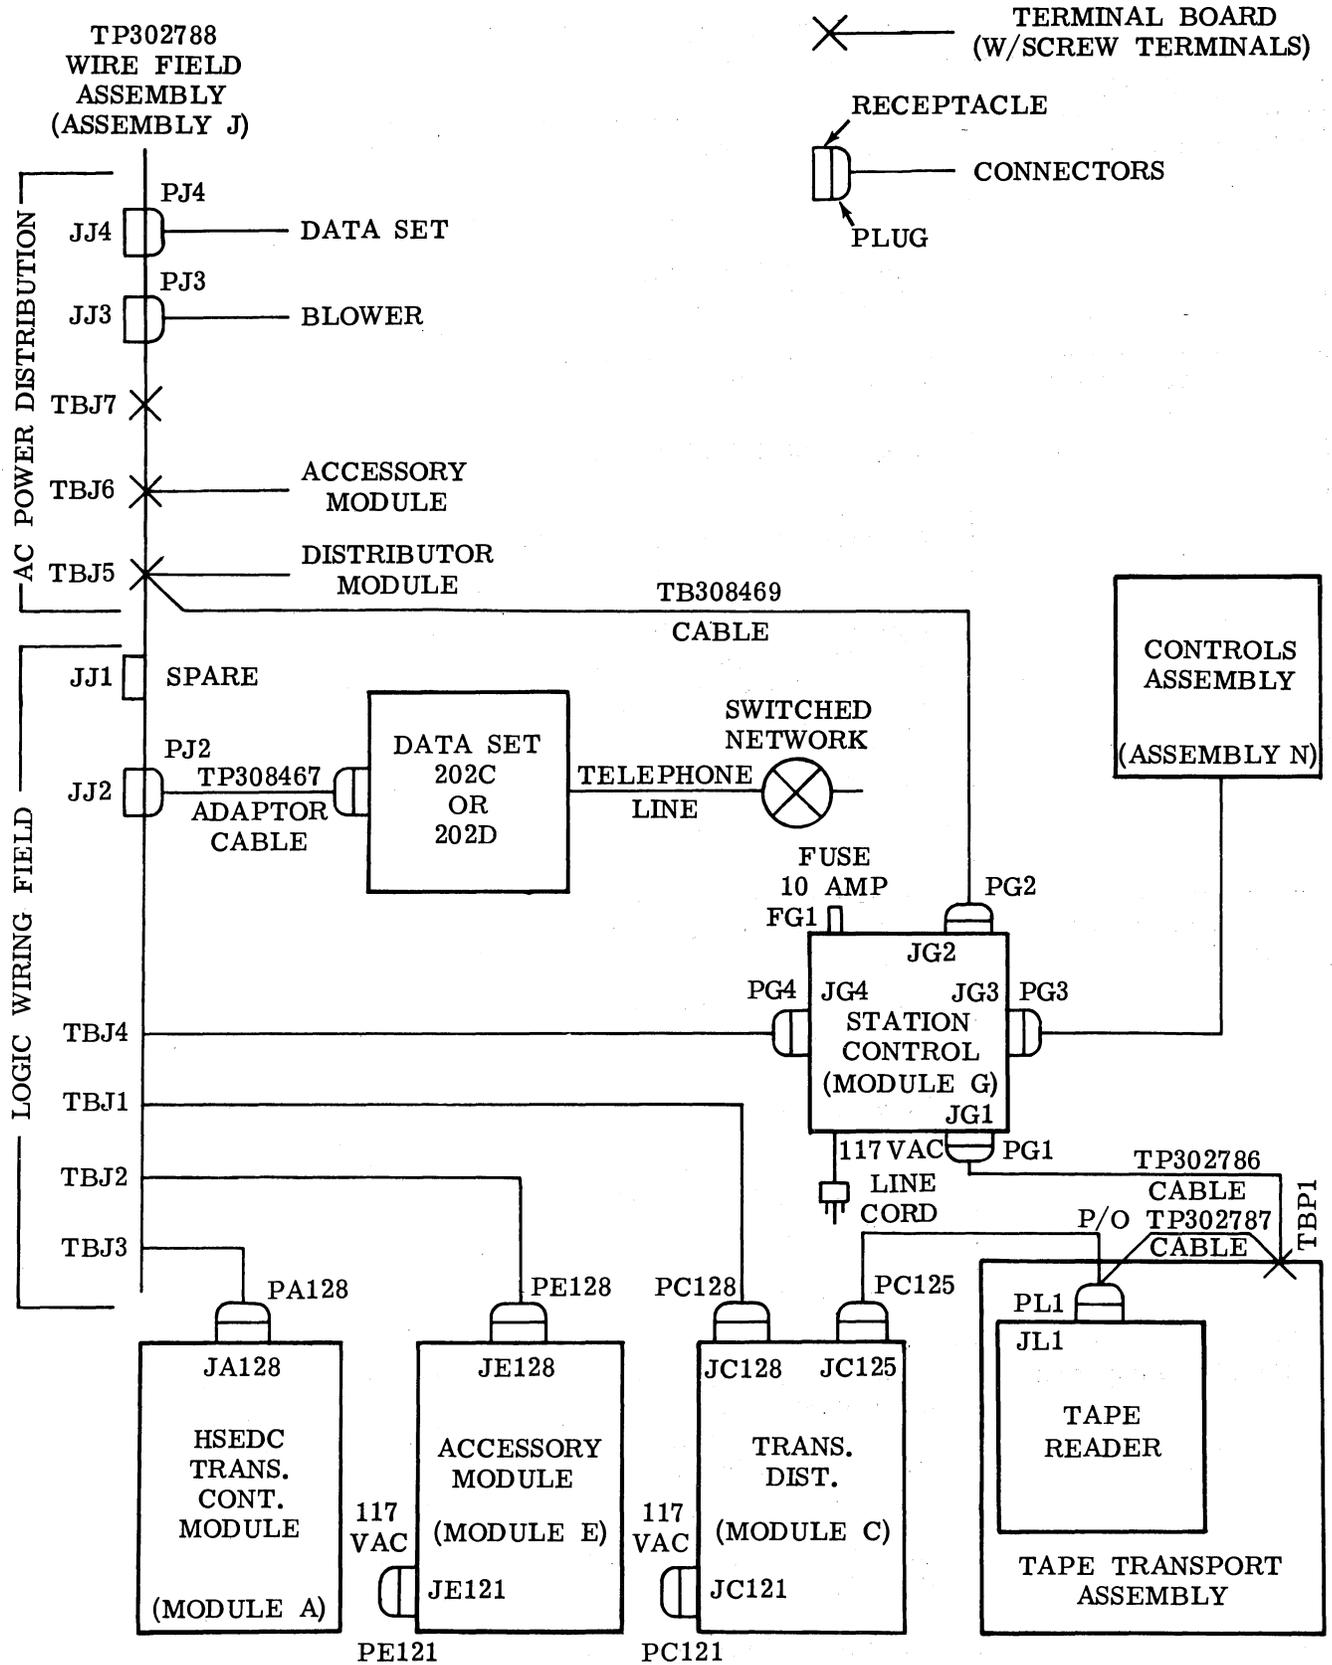

Figure 6 - Cabling Diagram
2.14 Module cable connections are shown in Figure 6. Make certain the connectors are rigidly held by their mounting screws.